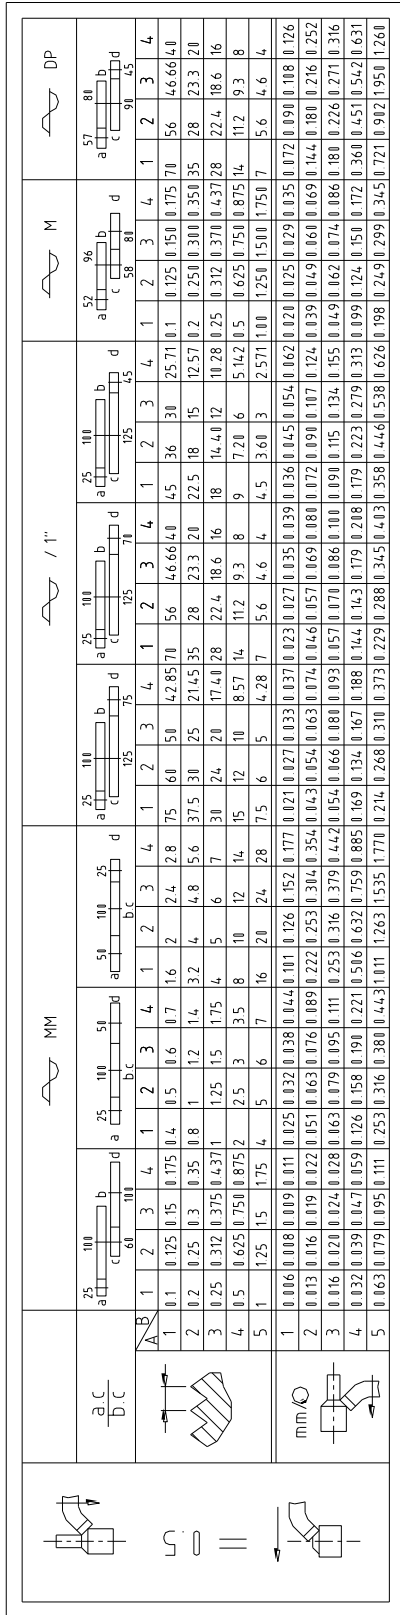
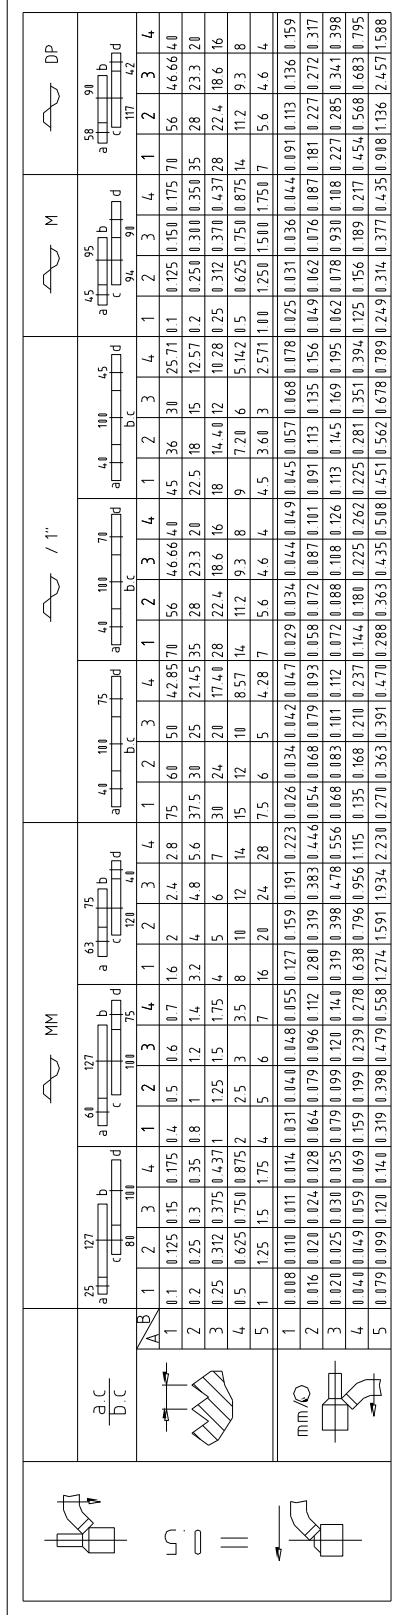

Fig.4-9 Metric version
Fig.4-10 Inch version
- **Quadrant 11, Fig.4-3:** it is set for operation by arranging a set changeover gears and in compliance with the plate for threads and feeds Fig.4-9, Fig.4-10, Fig.4-11, Fig.4-12;